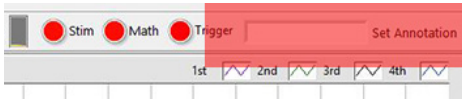

Fig. 28—Enter the note in the Set Annotation field and press Enter.
1. To add notes to your chart, enter the note in the **Set Annotation** field in the upper right corner of the main window (Fig. 28).